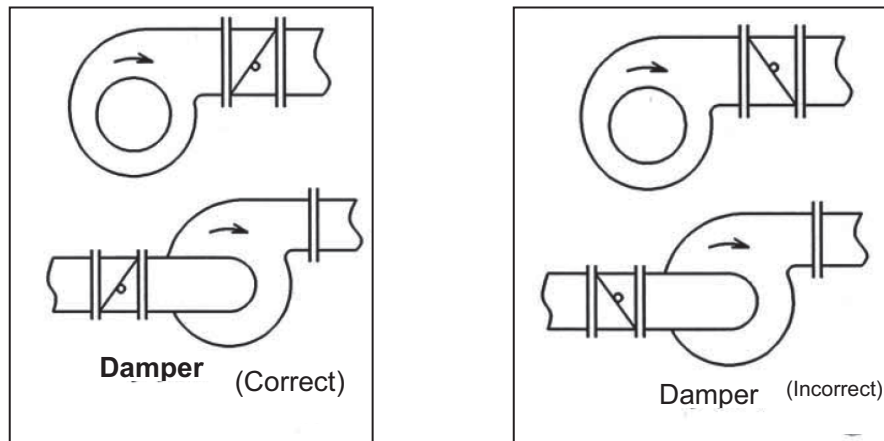

Figure 12 – Installation direction of the damper
- (1) Referring to the dimensional outline drawing that is submitted separately, install the damper in place. At that time, pay attention to the rotation direction of the fan's impeller (see Figure 12).
- (2) If the damper is of an electric or air cylinder type, carefully read the instruction manual of the actuator before use.